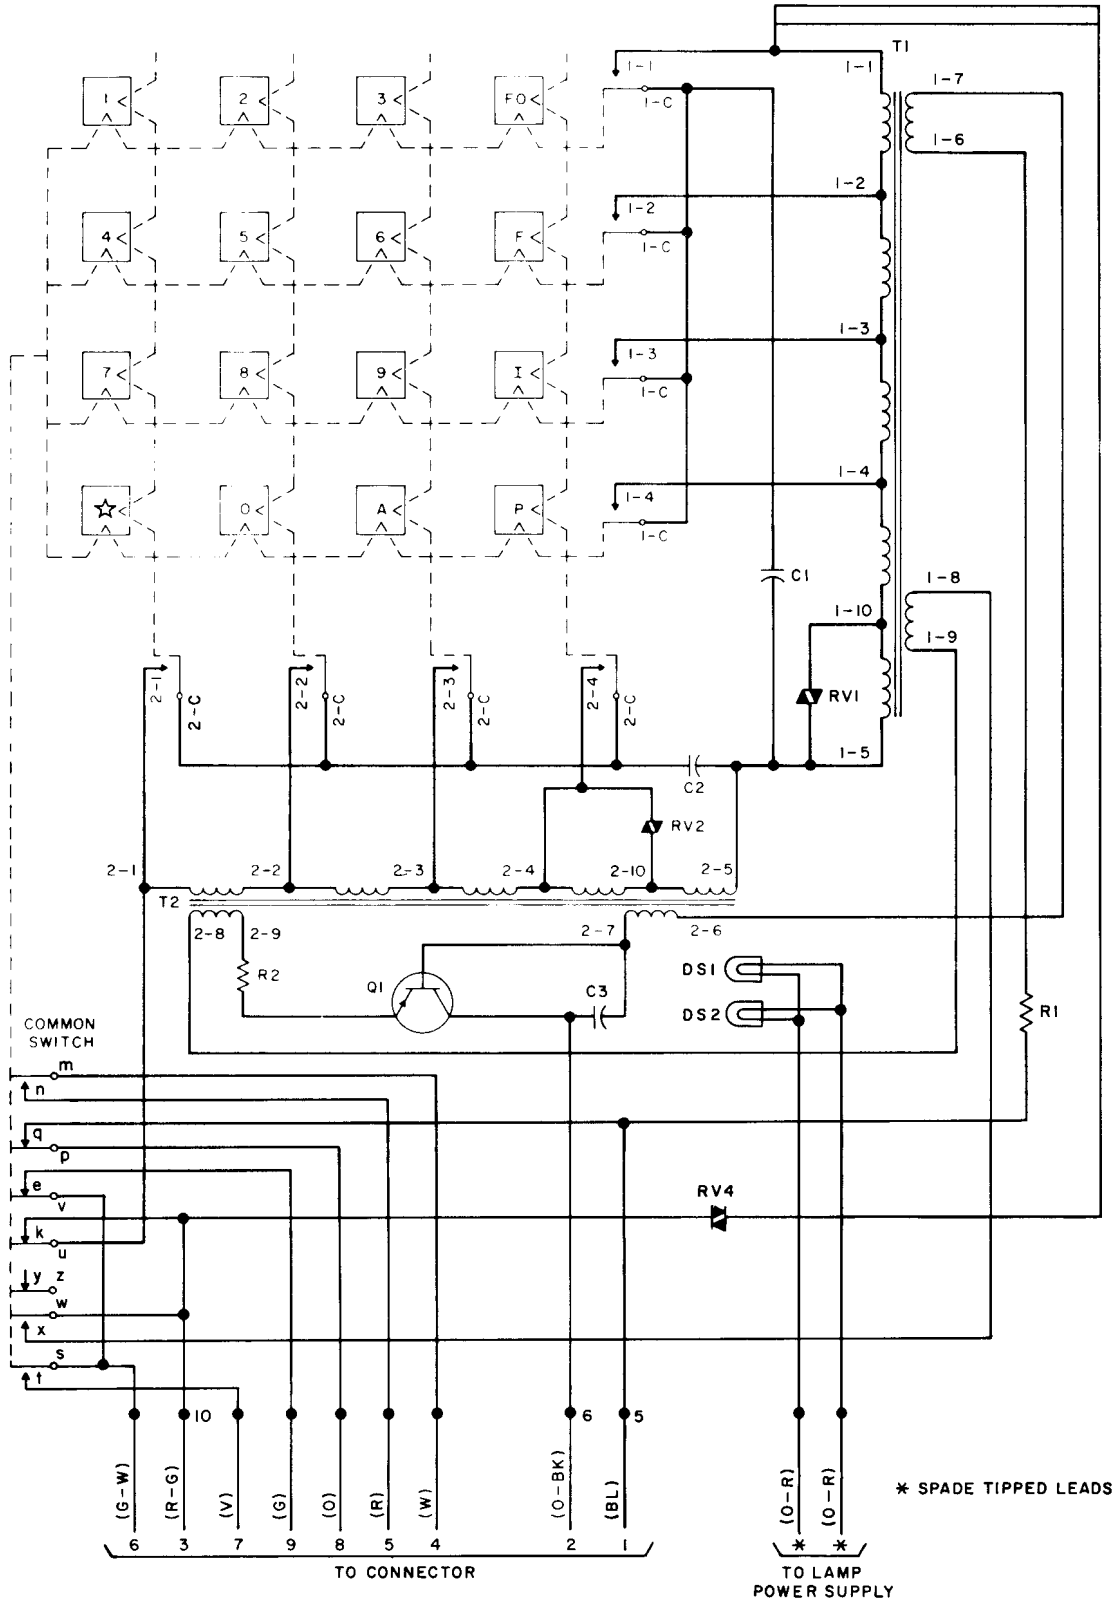

Fig. 14 — 66D4B Dial — Wiring Schematic
- Fig. 14 — 66D4B Dial — Wiring Schematic